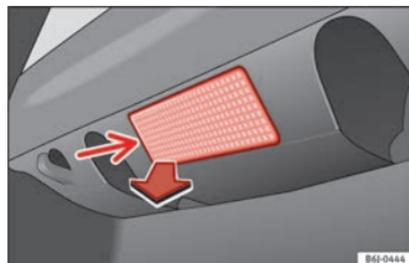

Fig. 110 Boot light.
- Extract the bulb by pressing on its inside edge -arrow- using the flat side of a screwdriver » **Fig. 110**.